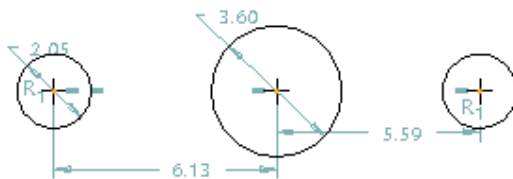

Figure 3-28 Three circles with weak dimensions and constraints
- Draw the sketch using sketcher tools, refer to Figures 3-28 and 3-29.
1. Choose the **Center and Point** tool from the **Circle** drop-down. Draw the circles in a horizontal line, as shown in Figure 3-28.